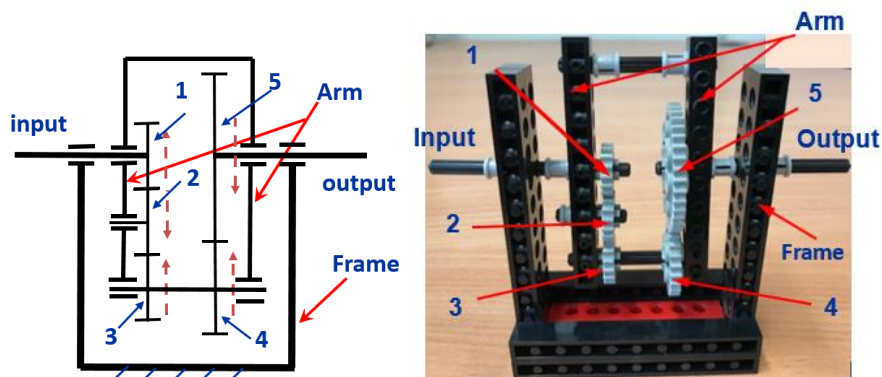

Figure Q2-1
- (d) Figure Q2-1 shows a planetary gear train of Lego parts. Gear 1 is mounted on the input shaft, which is fixed without rotation, i.e. $\omega_1 = 0$ rpm. Gear 5 is mounted on the output shaft.